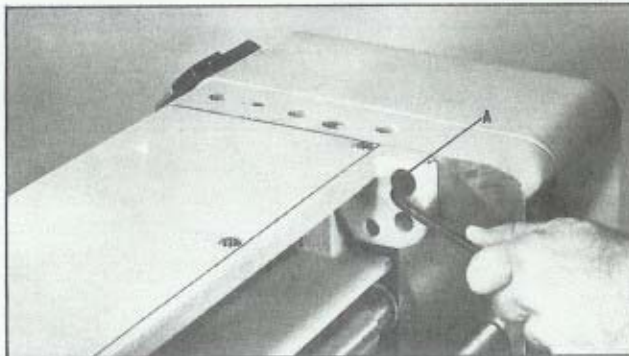

Fig. 12.
2. Remove the chipbreaker and cutterhead guard safety screw (A) Fig. 12.